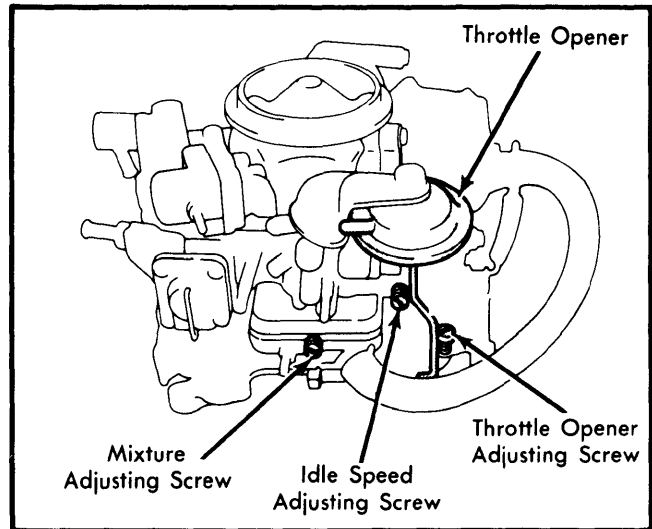

Fig. 2 Throttle Opener Adjusting Screw Location
- 2) Activate throttle opener (air conditioning "ON") and adjust throttle opener speed to specified RPM shown in table by turning throttle opener adjusting screw. See Fig. 2.